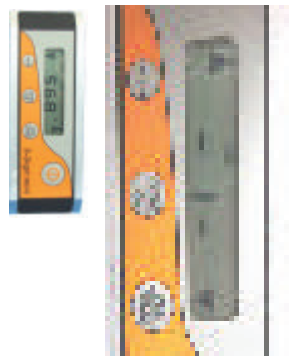

Figure 25
(2) Wait ten seconds then press again the “Zero calibration” key, the LCD will show “-1-“, as shown in figure 25.